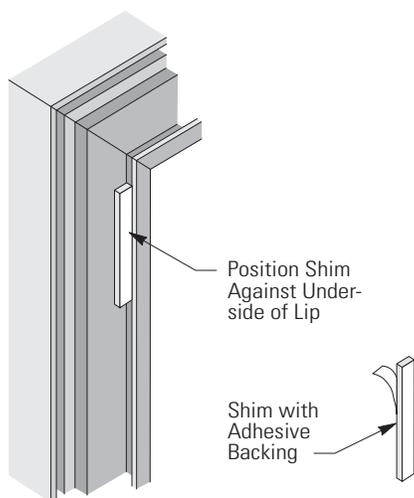

Fig. 2
Step 11 - Remove adhesive backing from door shims. Attach each to cabinet face at hinge location. **Important:** Shims must be placed firmly against underside of cabinet lip (See Fig. 2) and be spaced evenly and as far as possible from one another. **Note:** On Visulite Illuminated Directories, avoid contacting existing Turn Clips which protrude from the face of the same lip.